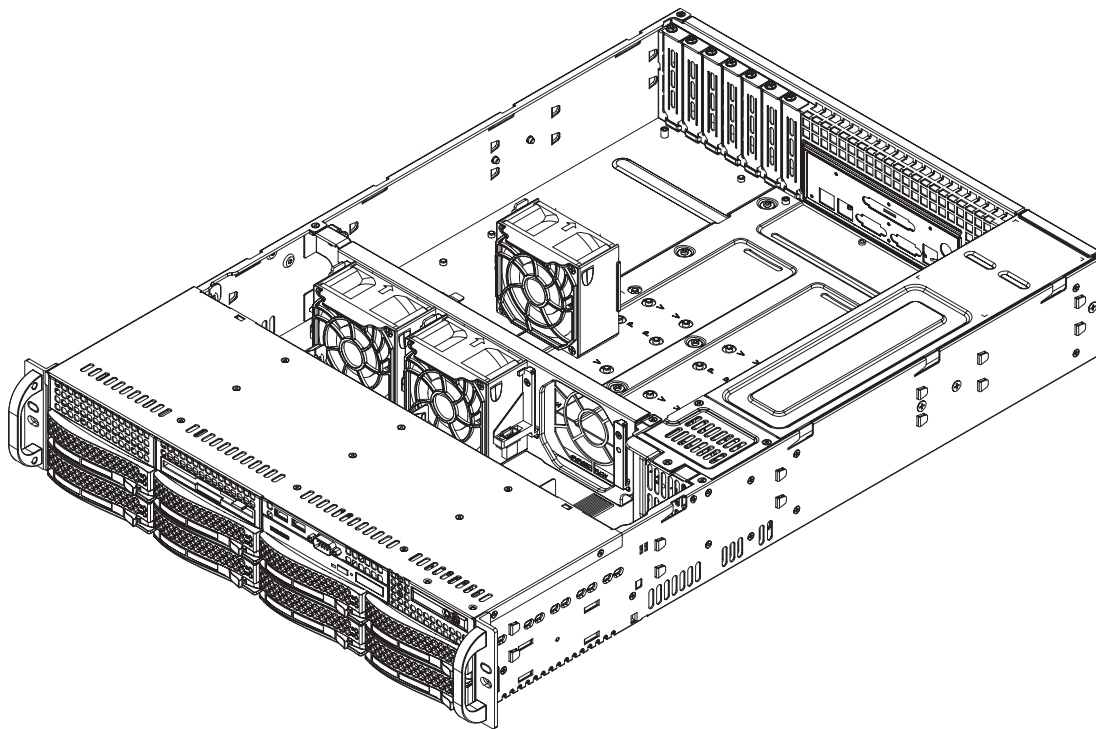

Figure 6-2 Remove/Replace Fan Example
Three 8-cm hot-swap fans provide the cooling for the system. It is very important that the chassis top cover is properly installed and making a good seal in order for the cooling air to circulate properly through the chassis and cool the components. See Figure 6-2 for a chassis top cover removal example.
2. Press the tabs on the sides of the fan to unlock and remove the fan (see example in Figure 6-2) and its housing. The fan's power connections will automatically detach.